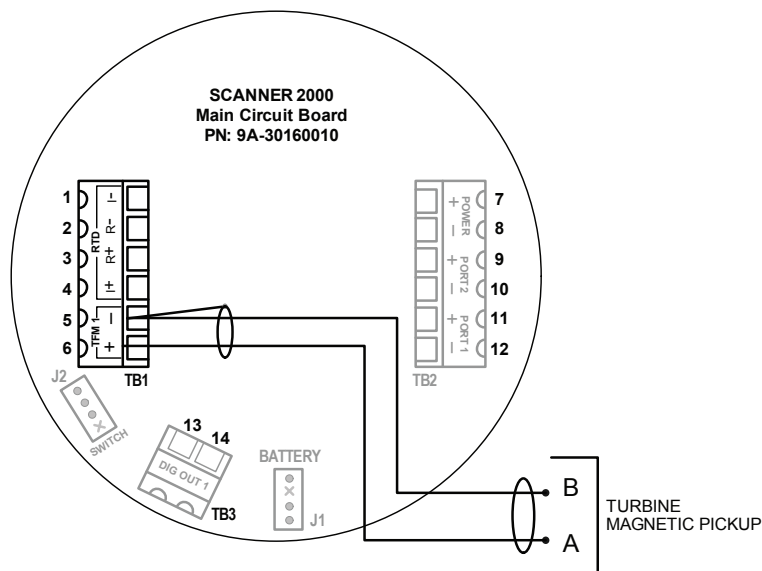

Figure 3.6—Flowmeter input wiring
- c. Connect the flowmeter input wiring to terminal block TB1, if appropriate. See Figure 3.6, page 57.
TFM1 on the main circuit board provides the turbine flowmeter input signal generated by a magnetic pickup, enabling the Scanner 2100 to calculate and display instantaneous flow rates and accumulated totals. Wire as shown in Figure 3.6.